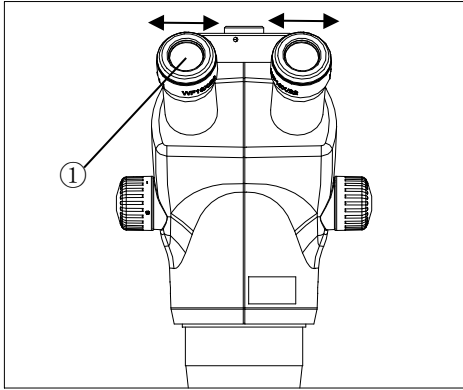

Fig 6
3.1.1 Interpupillary adjustment (fig.6)